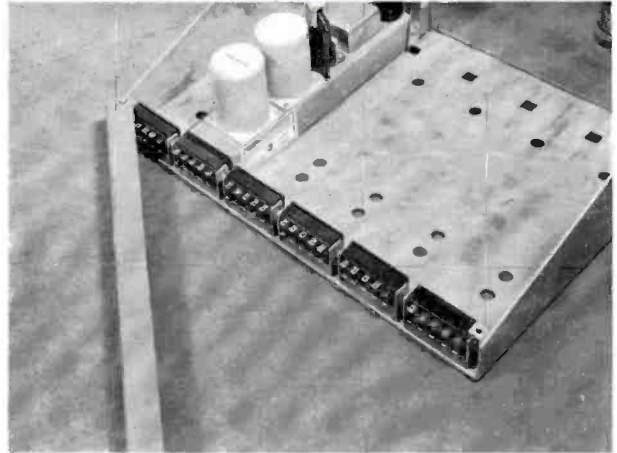

FIG. 9. Cover strip in rear of shelf protects wiring to receptacles. Note accessible position of all contacts.
5. COVERS WHOLE FREQUENCY BAND with one size of radiator (cylinder) and two sizes of transmission line lengths. No tuning or adjusting is required either on the ground or in the air. Wide bandwidth is obtained by use of line elements (Figure 9).
FIG. 9. (Right) Broad band characteristic of the Pylon Antenna as indicated by curves of standing wave ratio versus frequency. Curve "a" is for direct connection of line to antenna; Curve "b" with use of simple stub matching section. Note that with latter arrangement the standing wave ratio is low across the whole band.
The design is such that the holes in the socket are always within the "reach", so to speak, of the guide pins on the plug. This insures smooth and easy connection every time. The wiring to the back of the sockets is protected by a steel terminal board cover which is held in place by two screws. (Figure 9.)